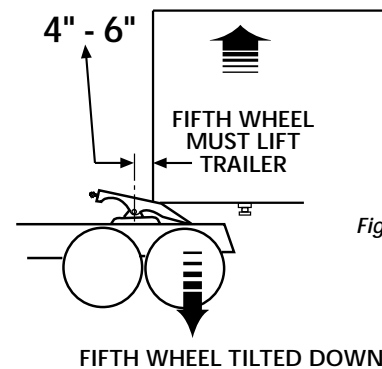

Figure 6
1. Disengage the manual secondary lock (*Item 25*) of equipped. Pull the release handle (*Item 5L* or *5R*), pry open the locks (*Items 16A* and *16B*) with a pry bar. Adjust landing gear to proper coupling height, as shown in *Figure 6*.